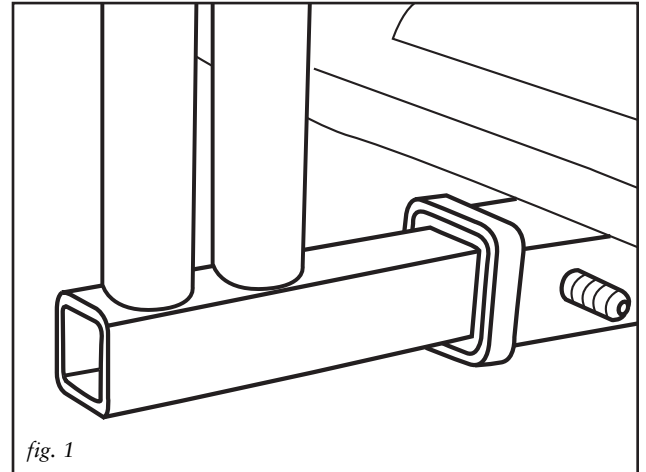

fig. 1
1. Insert the square end of Trailer Hitch Stand base into the trailer hitch receiver of vehicle (see fig. 1).